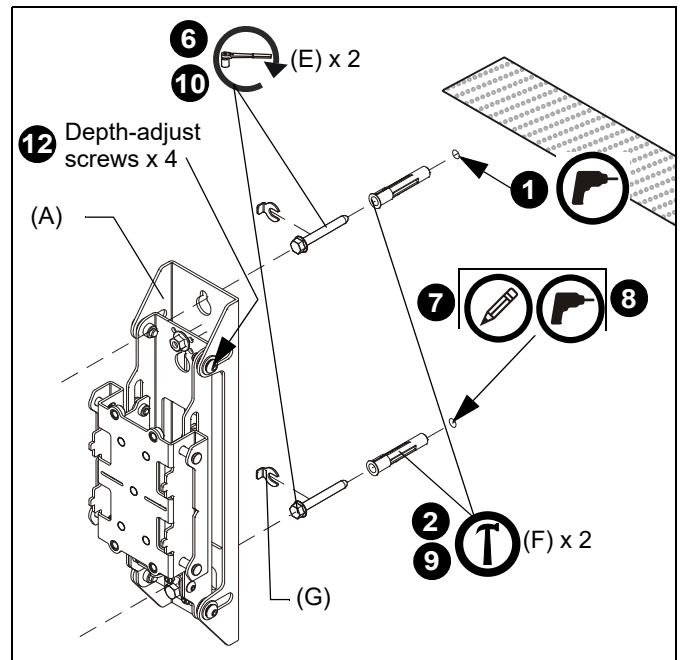

Figure 8
1. Drill one 3/8" x 3-1/2" (9.5mm x 88.9mm) pilot hole at each marking. (See Figure 8)
2. Install one anchor (F) into each pilot hole using a hammer, making sure that the anchor is flush with the wall.
3. Partially install one 5/16 x 2-3/4" flanged lag bolt (E) into pilot hole but do not tighten to wall.
4. Hang outside wall upright (A) [or center wall upright (B)] aligning upper mounting slot over lag bolt and level upright.
5. Place one slotted washer (G) over each flanged lag bolt. (See Figure 8)
7. Mark the attachment point for the lower mounting slot. (See Figure 8)
8. Drill 3/8" x 3-1/2" (9.5mm x 88.9mm) pilot holes at marking for lower mounting hole. (See Figure 8)
9. Install an anchor (F) into each pilot hole using a hammer, making sure that the anchor is flush with the wall.
10. Use one 5/16 x 2-3/4" flanged lag bolt (E) and one 5/16" slotted washer (G) to attach the wall upright to the wall through the lower mounting hole. (See Figure 8)
12. Adjust depth of wall uprights, if necessary, so that the face of the wall uprights are all in the same plane across the width of wall upright installation: (See Figure 8)